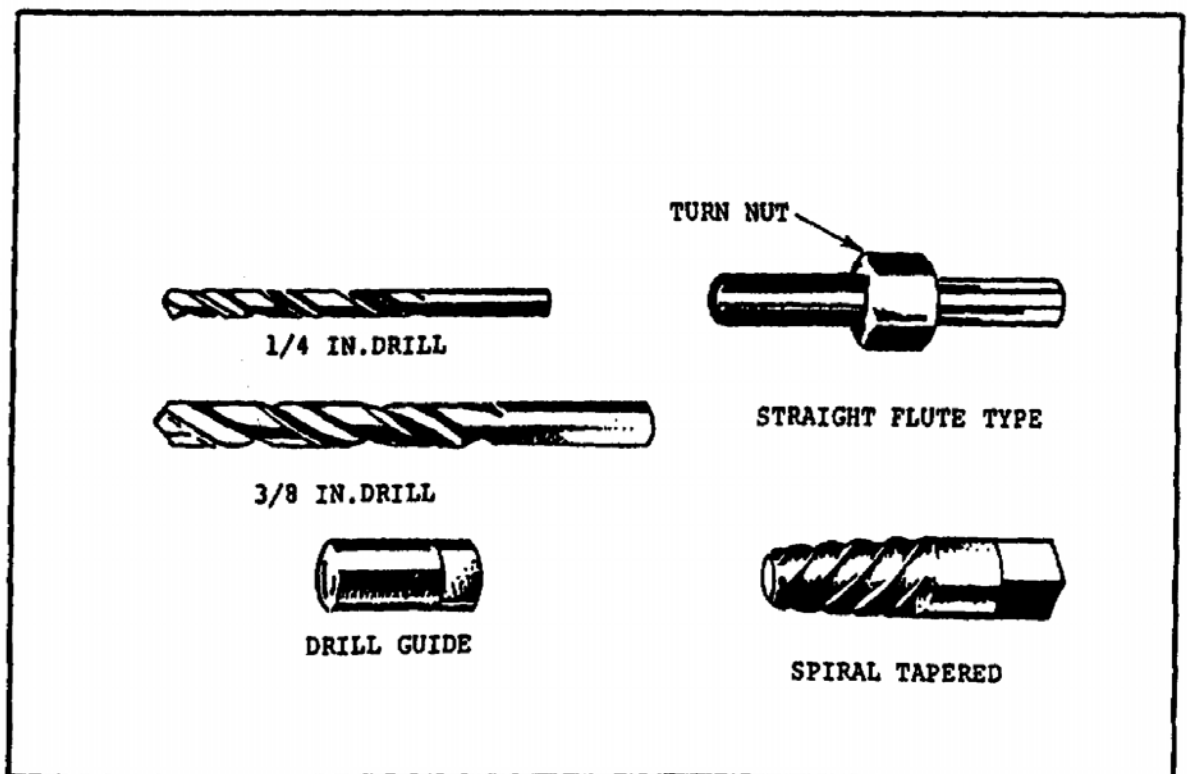

FIGURE 147. SCREW AND TAP EXTRACTORS.
b. *Types of Extractors.* Some screw extractors (figure 147) are straight, having flutes from end to end. These extractors are used with twist drills, drill guides, and turn nuts. This type is issued in sizes to remove screws having 1/4 to 1/2 inch outside diameter. This type is also issued in a set, enclosed in a metal case. Spiral tapered extractors are also available in sets that include twist drills. Spiral tapered extractors are sized to remove screws and bolts from 3/16 inch to 2 1/8 inches outside diameter.